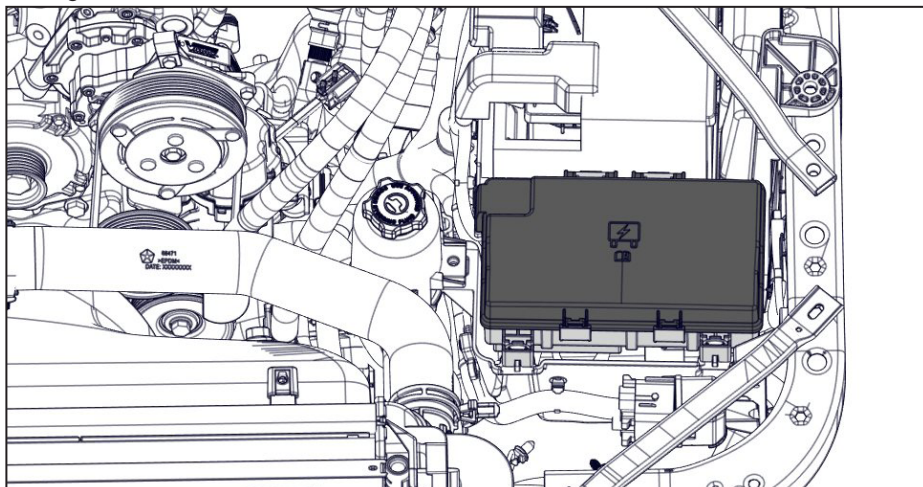

Figure 64 — Locate PDC
- ☐ Locate the Power Distribution Center (PDC) fuse box under hood of the vehicle (Figure 64).